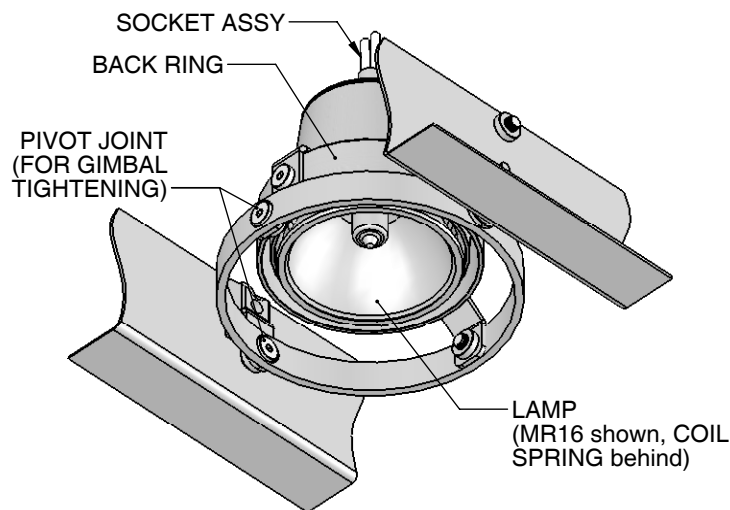

Figure 6
- Once removed, insert the properly-specified LAMP into the BACK RING, ensure that the LAMP is the correct LAMP for the SOCKET or damage to the fixture or lamp may occur. The LAMP will seat into the COIL SPRING when installed properly. While holding the LAMP in place, grab the SOCKET ASSY and plug or screw the LAMP firmly into it. See Fig. 6.
\*If a stronger, more secure lock is required then the PIVOT JOINTS (hex screws) may be tightened *clockwise* with a hex wrench tool. See Fig. 6.